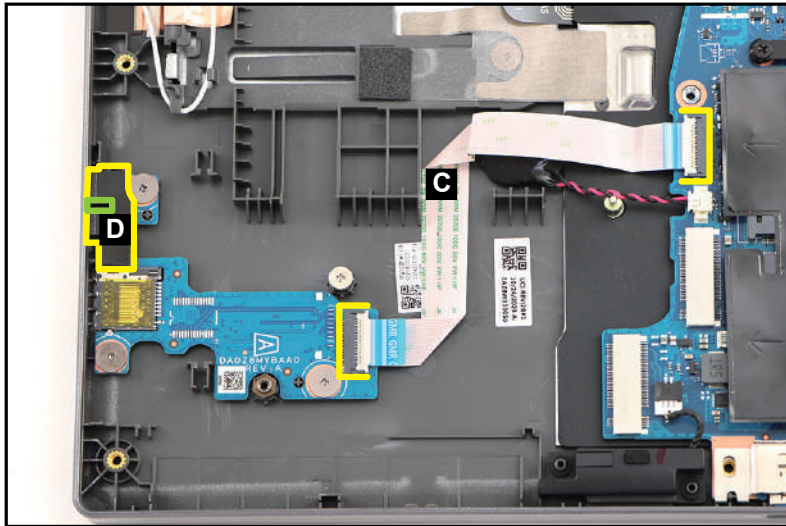

Figure 3-121. Replacing the Card Reader Board
3. Connect the card reader board FFC (C) to the card reader board and mainboard connectors (Figure 3-121).
4. Attach the sponge (D) onto the card reader board as shown in Figure 3-121.